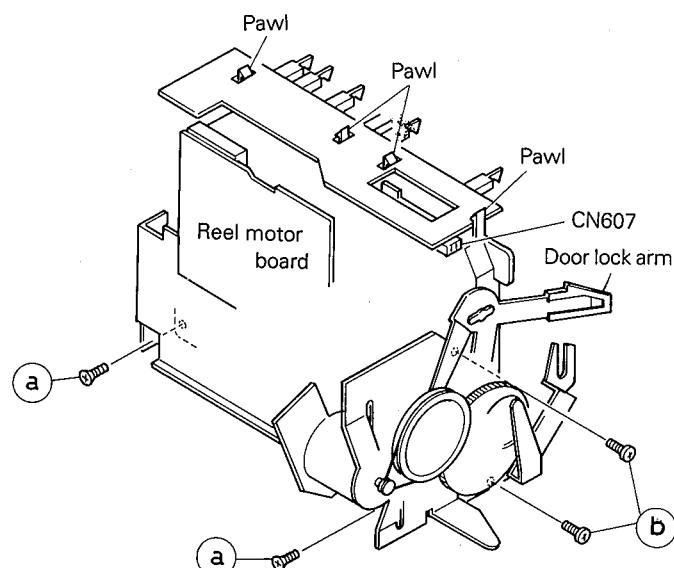

Fig. 2-10
■ Door motor unit (Fig. 2-10)
- 2) Remove two screws ② retaining the mechanism holder and mechanism chassis.
- 3) Disengage the eject lock arm from the shaft, then remove two screws ③ retaining the DD motor bracket (TD-R472) /FM bracket (TD-R461).